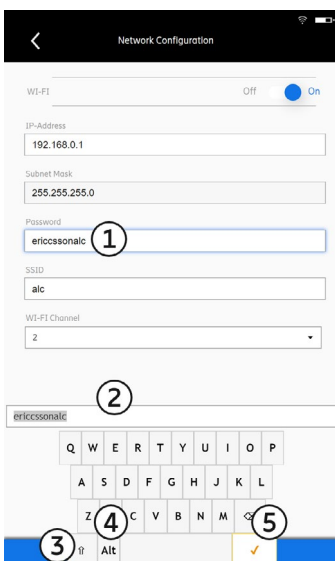

Fig. 22: Network configuration: Changing the password
The alphanumeric keyboard to enter a new password (2) in Fig. 22) is shown:
The keyboard to enter a new SSID (② in Fig. 22) is shown.